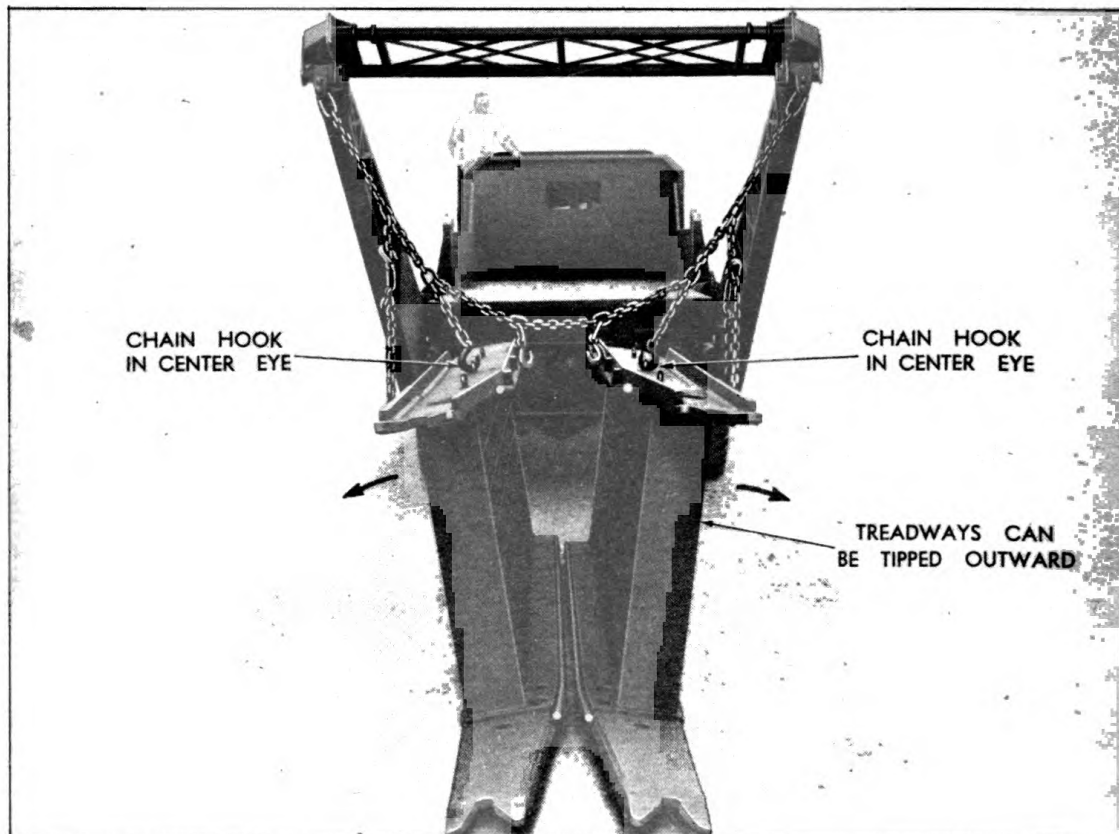

Figure 21. Tipping Center Treadways to Horizontal Position
(3) Always load and unload the treadways with the road surfaces toward each other. By handling the treadways in this manner they can easily be laid over to the horizontal position by tipping them away from each other. See Figure 21.